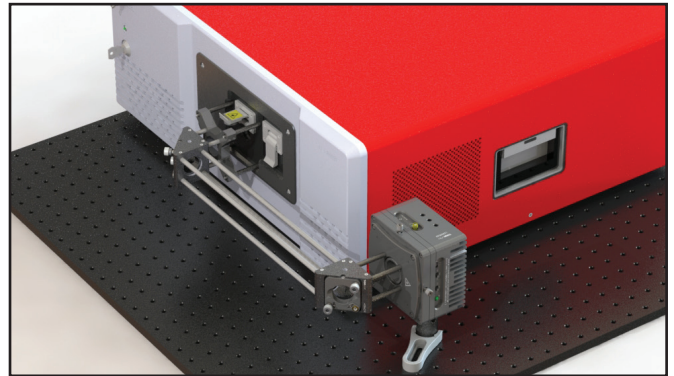

Figure 3: An example free-space setup for a collimated source, which includes a laser diode mounted in a Thorlabs LDM56 TE-Cooled Laser Diode Mount.
1. To simplify alignment, two mirrors in kinematic mounts should be used, where one is placed close to the input port of the OSA and the other near the optical source. One example of how the mirrors can be positioned for a collimated source is shown in Figure 3.